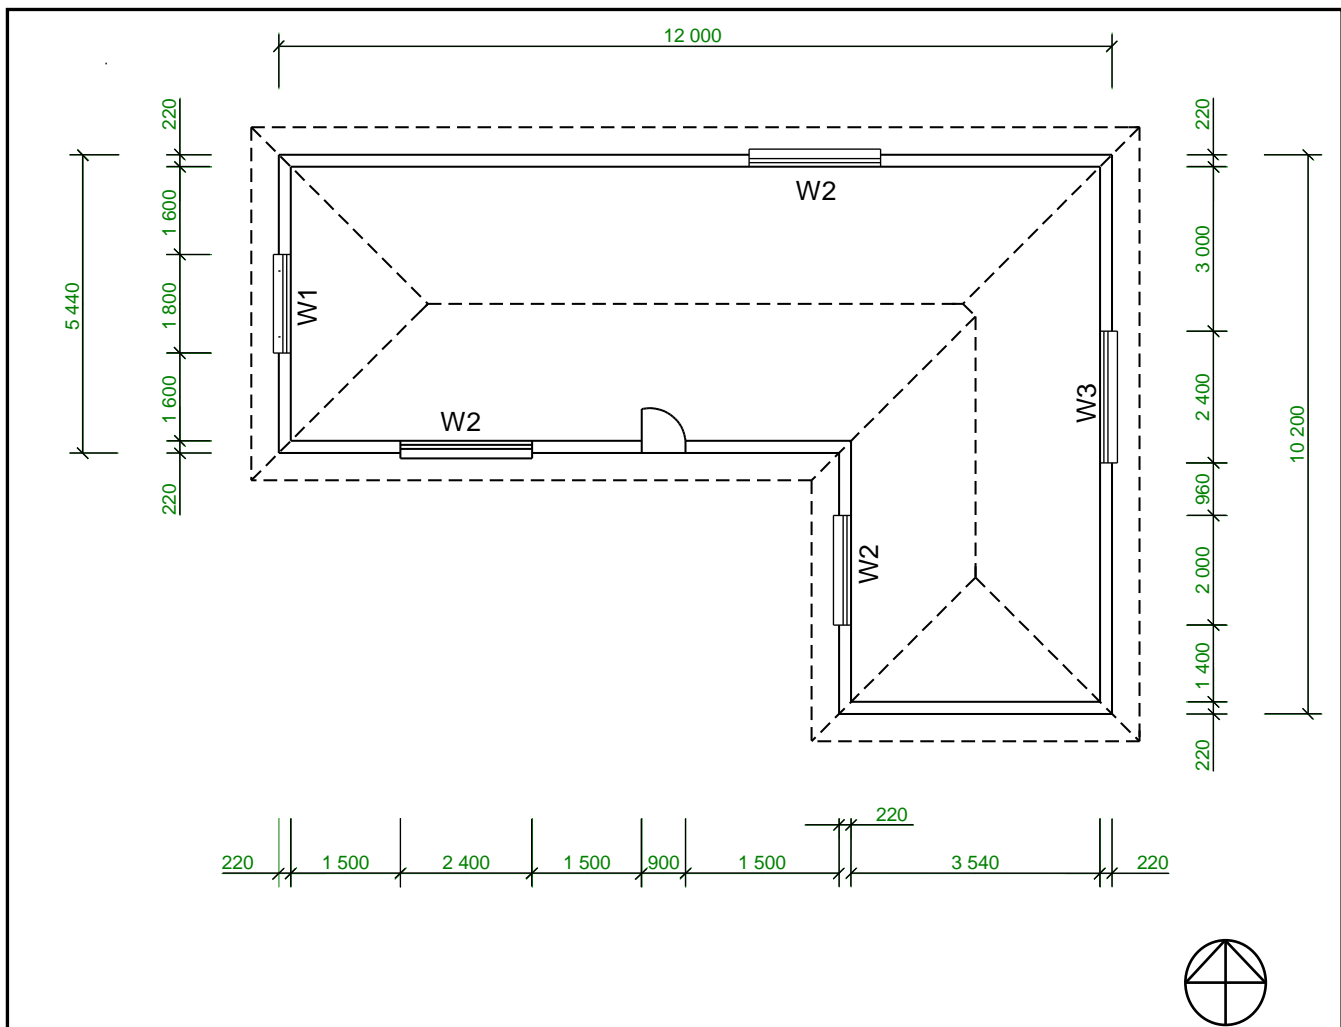

FIGURE 6.2
6.2 FIGURE 6.2 below shows the incomplete floor plan with the roof layout of a proposed dwelling.
Study FIGURE 6.2 and develop and draw, on ANSWER SHEET 6.2, to scale 1 : 50, the WEST ELEVATION of the building. Use the specifications below and on the next page. (Use the assessment criteria on ANSWER SHEET 6.2 as a guideline for your drawing.)